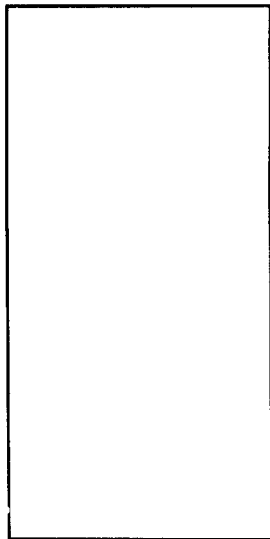

Fig. 6
14. Complete Fig. 6 to show the rear elevation of a ledged, braced and battened door.